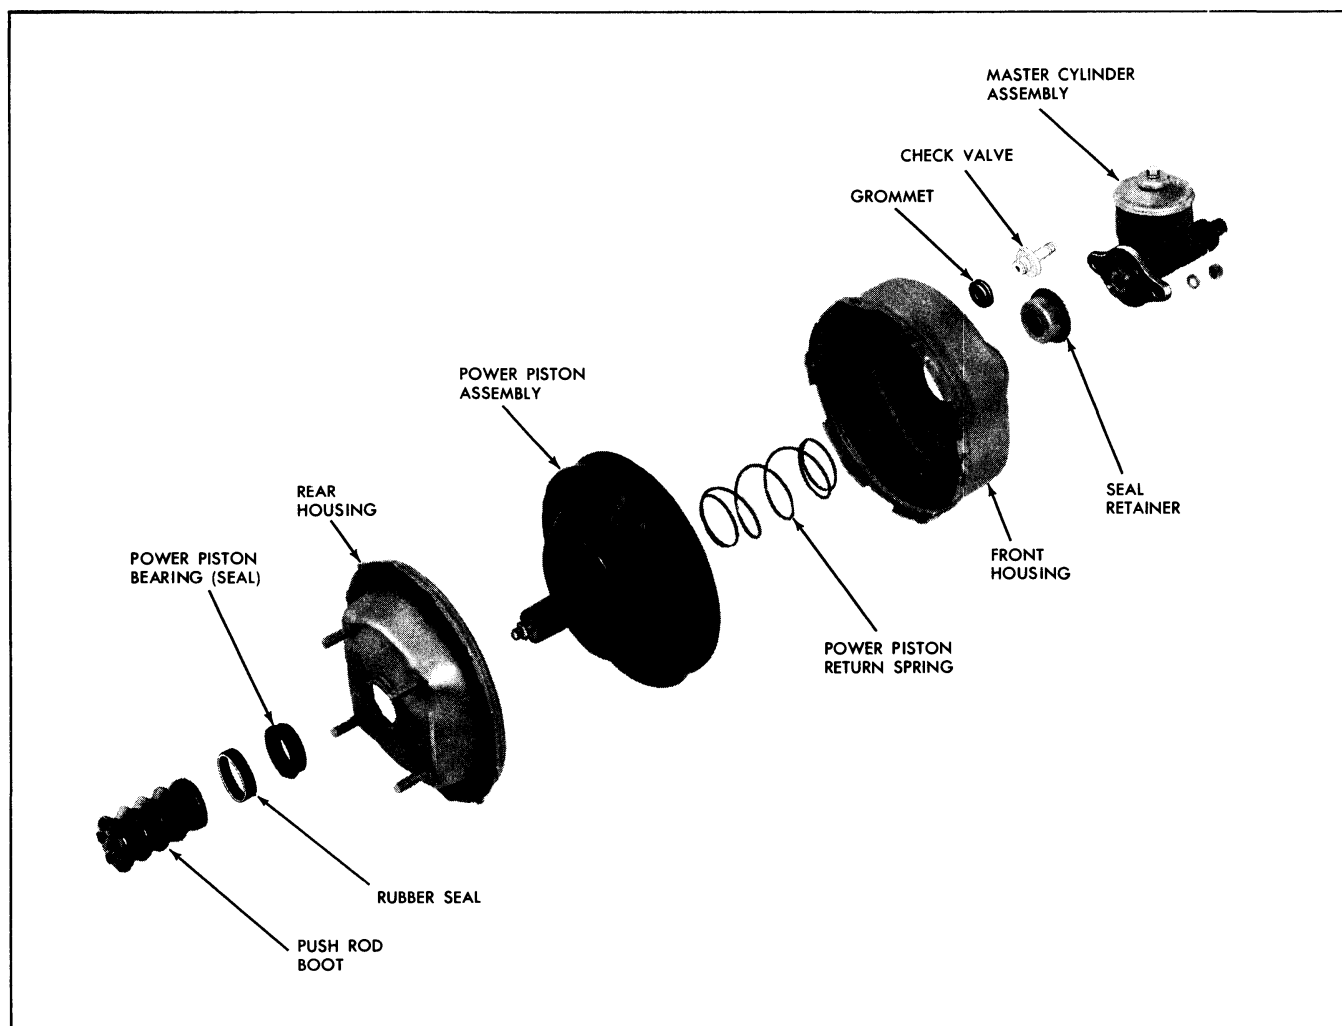

Fig. 5B-9 Power Brake Units—Exploded View
5. Remove the power piston insert (Fig. 5B-11) and its two seal rings.